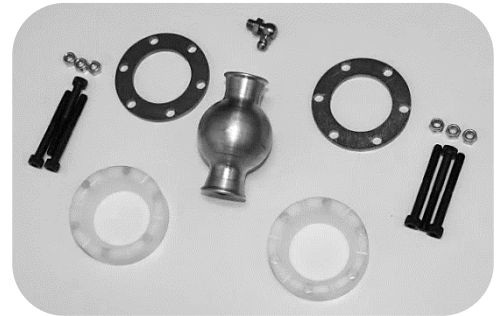

Figure 1
14. Insert two #10-32 socket head cap screws into one thrust washer and one plastic race. Spherical bore of race facing away from thrust washer. (Figure 1)